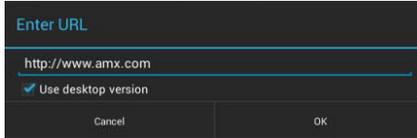

FIG. 69 Enter URL window
Add a URL	Select to add a URL to the URL list. This selection opens the Enter URL window (FIG. 69). Enter the URL and de-select the Use desktop version option to request 'mobile' content for the URL. By default, this option is selected.
1. From the *Browser* page, press *Add a URL* (see FIG. 68 on page 50) to open the *Enter URL* window (FIG. 69):